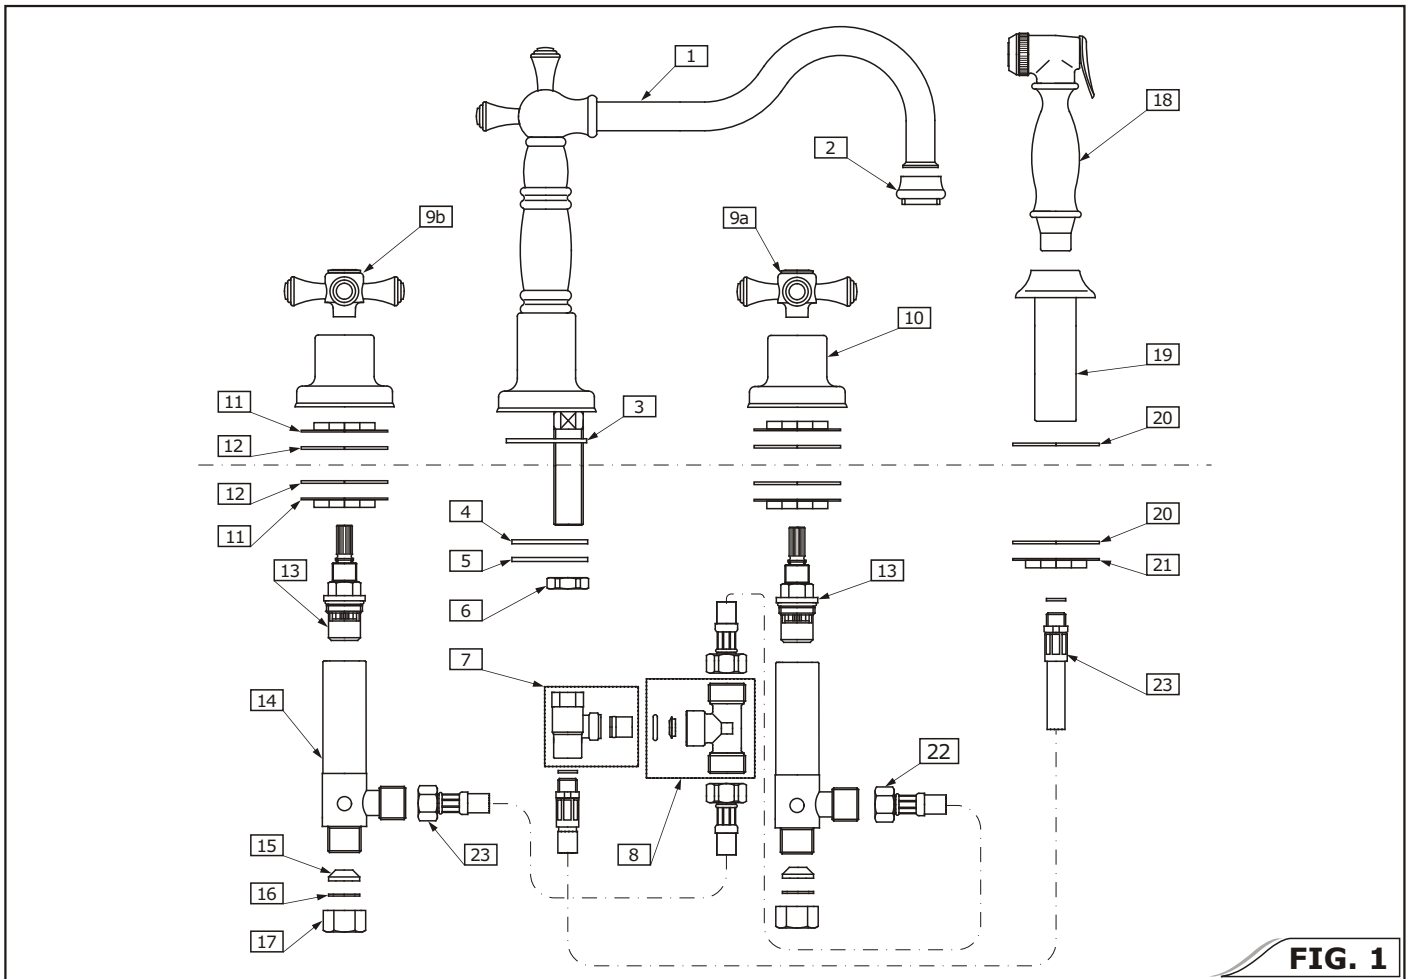
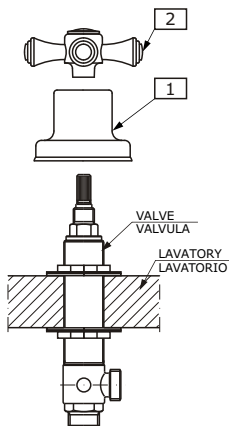

FIG. 1
FIG. 3a
- Spin the bottom valve mounting nuts (2) all the way down the valve and remove the top nut and washers. Insert valve (1) up through the hole in the deck, then drop on the washers (3) and the top mounting nut.
- Connect hose (22 fig.1) to the outlet connection of the valve. The other end of the hose should be connected to T-connection (8 fig.1).
See fig. 3a & 3b
● In case of **PESARO MODELS** (see fig. 3a): First screw shroud (1) onto valve until against the deck. Do not overtighten. Insert cross handles (see fig.1, items 9a & 9b) onto the valves. Make sure the LEFT cross handle with (H) cap is on the RED marked valve and the RIGHT cross handle with (C) cap is on the BLUE marked valve.